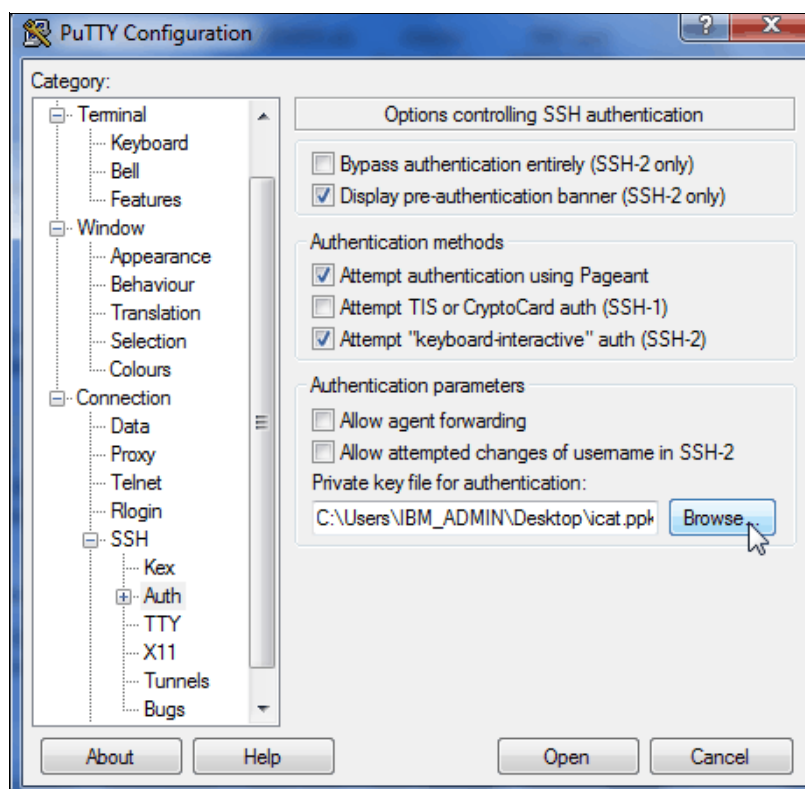

Figure A-12 SSH authentication
- From the Category pane on the left side of the PuTTY Configuration window, click **Connection** → **SSH** → **Auth**. As shown in Figure A-12, in the “Private key file for authentication:” field under the Authentication Parameters section in the right side pane, browse to or enter the fully qualified directory path and file name of the SSH client private key file that was created earlier (for example, C:\Support Utils\PuTTY\icat.PPK).